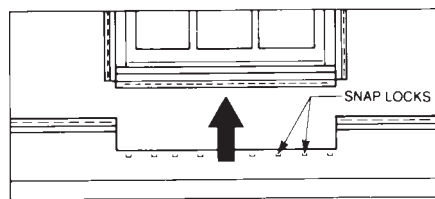

FIG. 15 Preparation of Siding Panel Under Window
9.3.6 At a window a siding panel may have to be cut to fit under the opening. Be sure this panel extends on both sides of the window. Measure the panel to fit. Hold the siding panel under the window and mark the width of the opening on it. Allow 1/4 in. (6.4 mm) clearance at the edges for insertion into each side of the J-channel. Measure the space between the bottom edge of the S-lock on the previous panel and the top of the undersill trim, minus 1/4 in (6.4 mm) for insertion into the undersill trim receiver. Remove cut section. Punch snap locks every 6 in. (152 mm) along the horizontal cut edge. Slide the panel up into position so the bottom locks into the previous panel and the top snaps into the undersill trim and fasten. (See Fig. 15.)